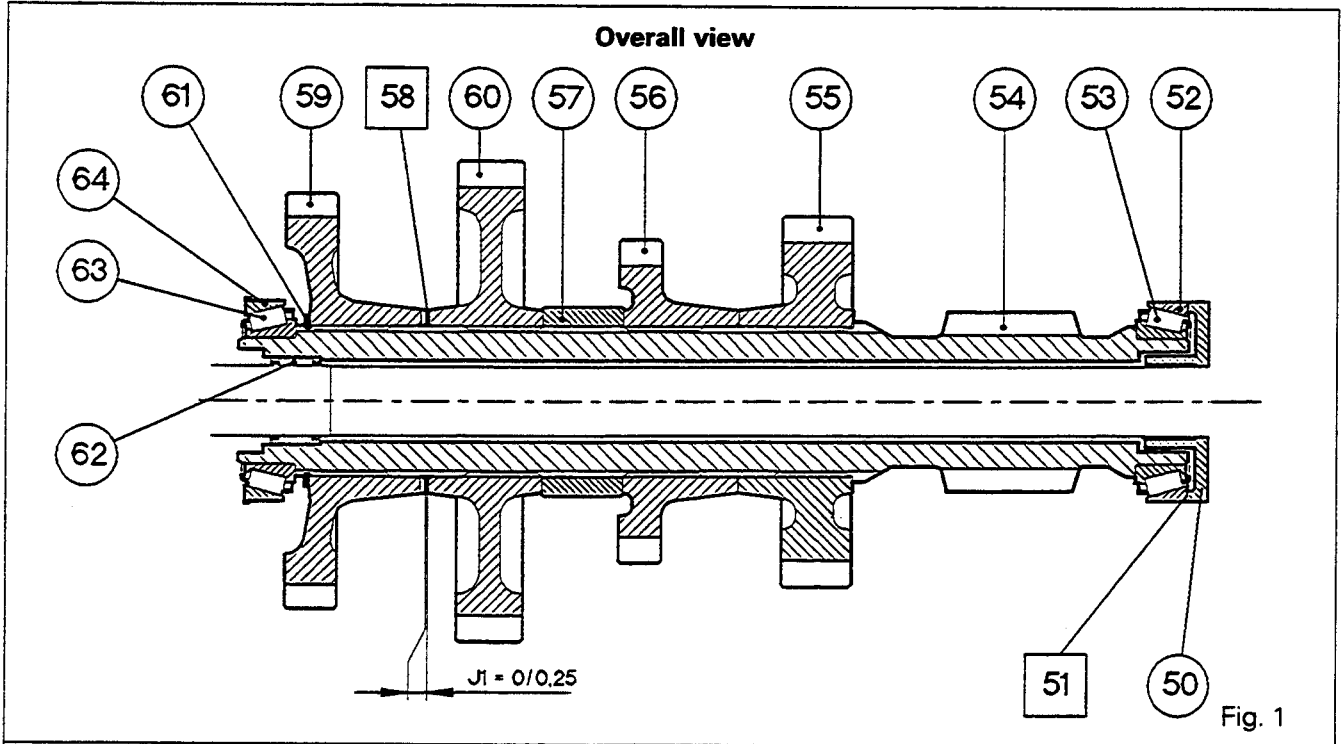

Fig. 1
41. Perform the shimming (Fig. 1) to obtain:
42. Use the thickness of shims **Y (42)** and **(43)**, measured in procedure 21, to deduce the thickness of shims **Z (38)** to obtain: